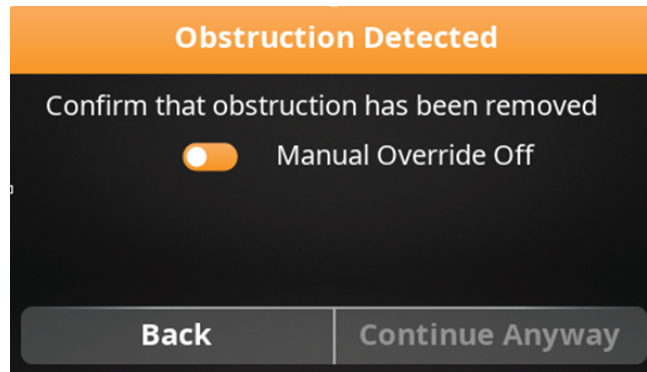

Figure 11 – Obstruction Detected screen
1. Press  to display the manual override screen (Figure 11).